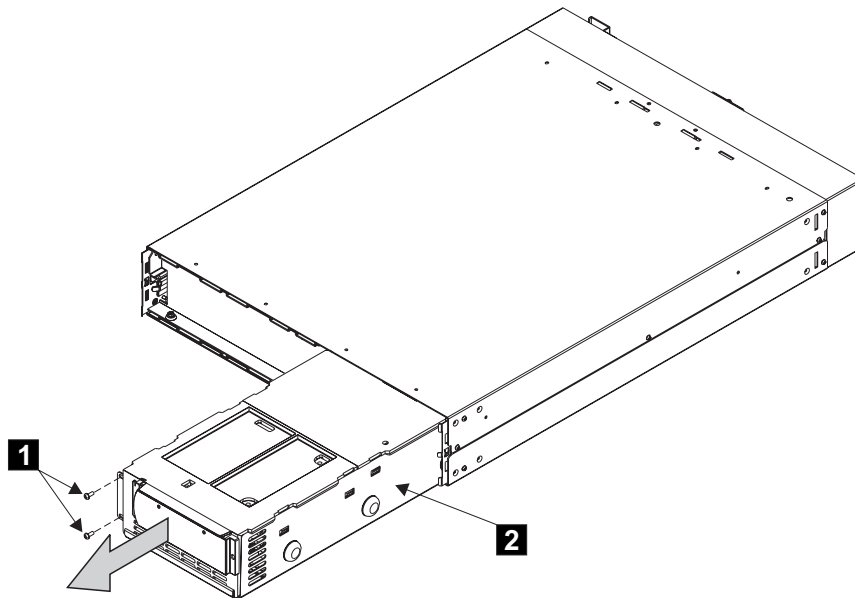

Figure 173. Removing the electronics unit from the 2145 UPS
4. Remove the two screws. See **1** in Figure 173.